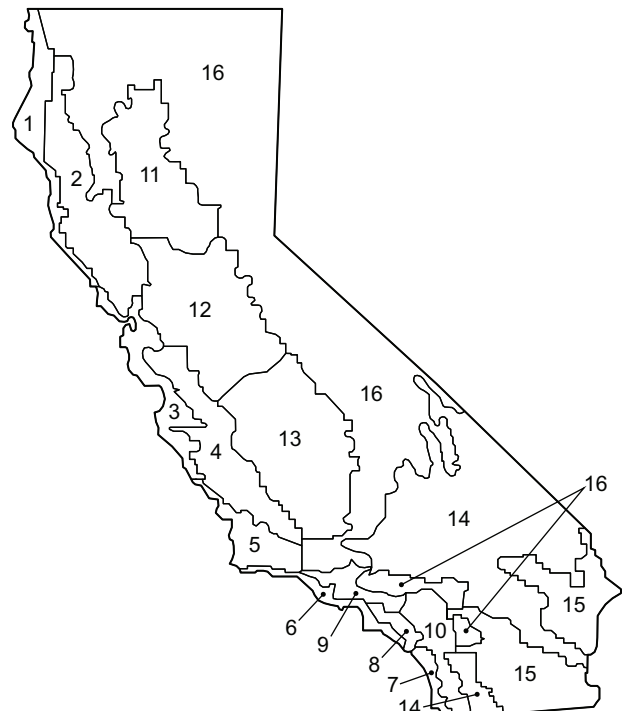

Fig. 64 — California Title 24 Zones
b. See Fig. 64 for map of California Title 24 zones.